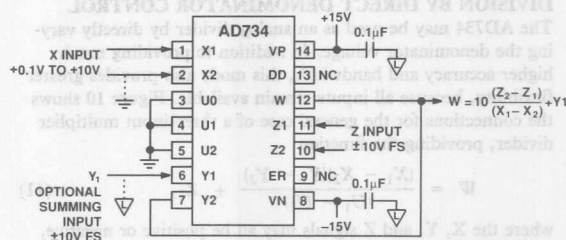

Figure 8. Standard (AD534) Divider Connection
In the recommended direct divider mode, the Y input is set to a fixed voltage (typically 10 V) and U is varied directly; it may have any value from 10 mV to 10 V. The magnitude of the ratio X/U cannot exceed 1.25; for example, the peak X-input for $U = 1$ V is ± 1.25 V. Above this level, clipping occurs at the positive and negative extremities of the X-input. Alternatively, the AD734 can be operated using the standard (AD534) divider connections (Figure 8), when the negative feedback path is established via the Y_2 input. Substituting W for Y_2 in Equation (2),
Figure 8 shows the connections for the standard (AD534) divider mode. Feedback from the output, W, is now taken to the Y2 (inverting) input, which, provided that the X-input is positive, establishes a negative feedback path. Y1 should normally be connected to the ground associated with the load circuit, but may optionally be used to sum a further signal to the output. If desired, the polarity of the Y-input connections can be reversed, with W connected to Y1 and Y2 used as the optional summation input. In this case, either the polarity of the X-input connections must be reversed, or the X-input voltage must be negative.